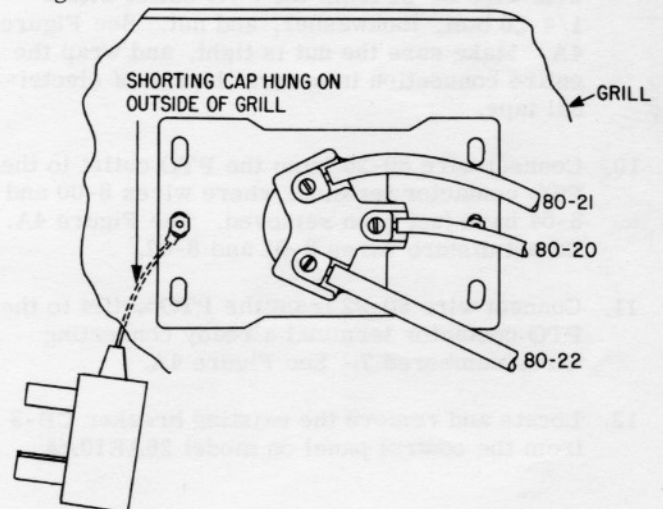
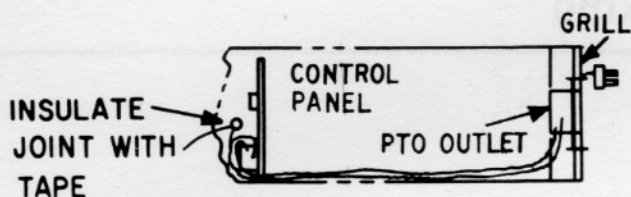

Figure 2
Figure 3
6. Install the PTO outlet on the back side of the grill as shown in Figure 2. Secure with a #8 Phillips Head screw, lockwasher and nut in each of the mounting holes, with the shorting-cap lead under one of the screw heads. The screw heads should be on the outside of the grill.
7. Attach furnished wires 80-20, 80-21 and 80-22 to the PTO outlet as shown in Figure 2. Dress these wires along the right side of the battery compartment as shown in Figure 3.